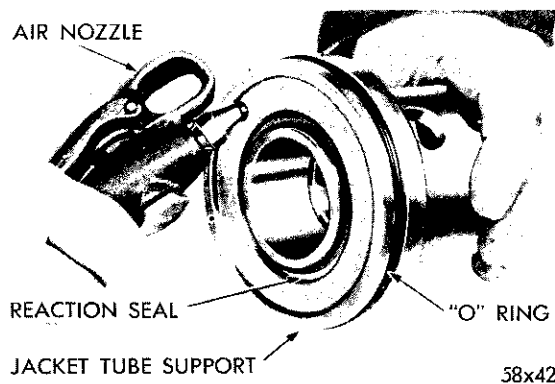

Fig. 30—Removing Reaction Seal from Jacket Support
(2) Remove the large “O” ring from the groove in the jacket support.
(3) Remove the reaction seal from the groove in the face of the jacket support with air pressure directed into the ferrule chamber (Fig. 30).
(4) Inspect all grooves for burrs. Make sure the passage from the ferrule chamber to the upper reaction chamber is unobstructed.